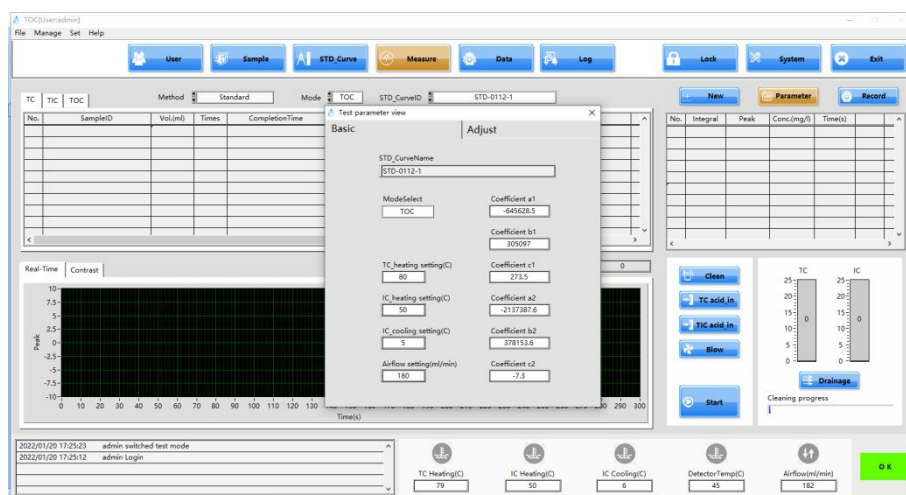

Fig 4.59
Step 2 Click  to enter the sample test interface. The software automatically presents the line used in the last test and a pop-up window displays the basic parameters of the line (Fig. 4.59).